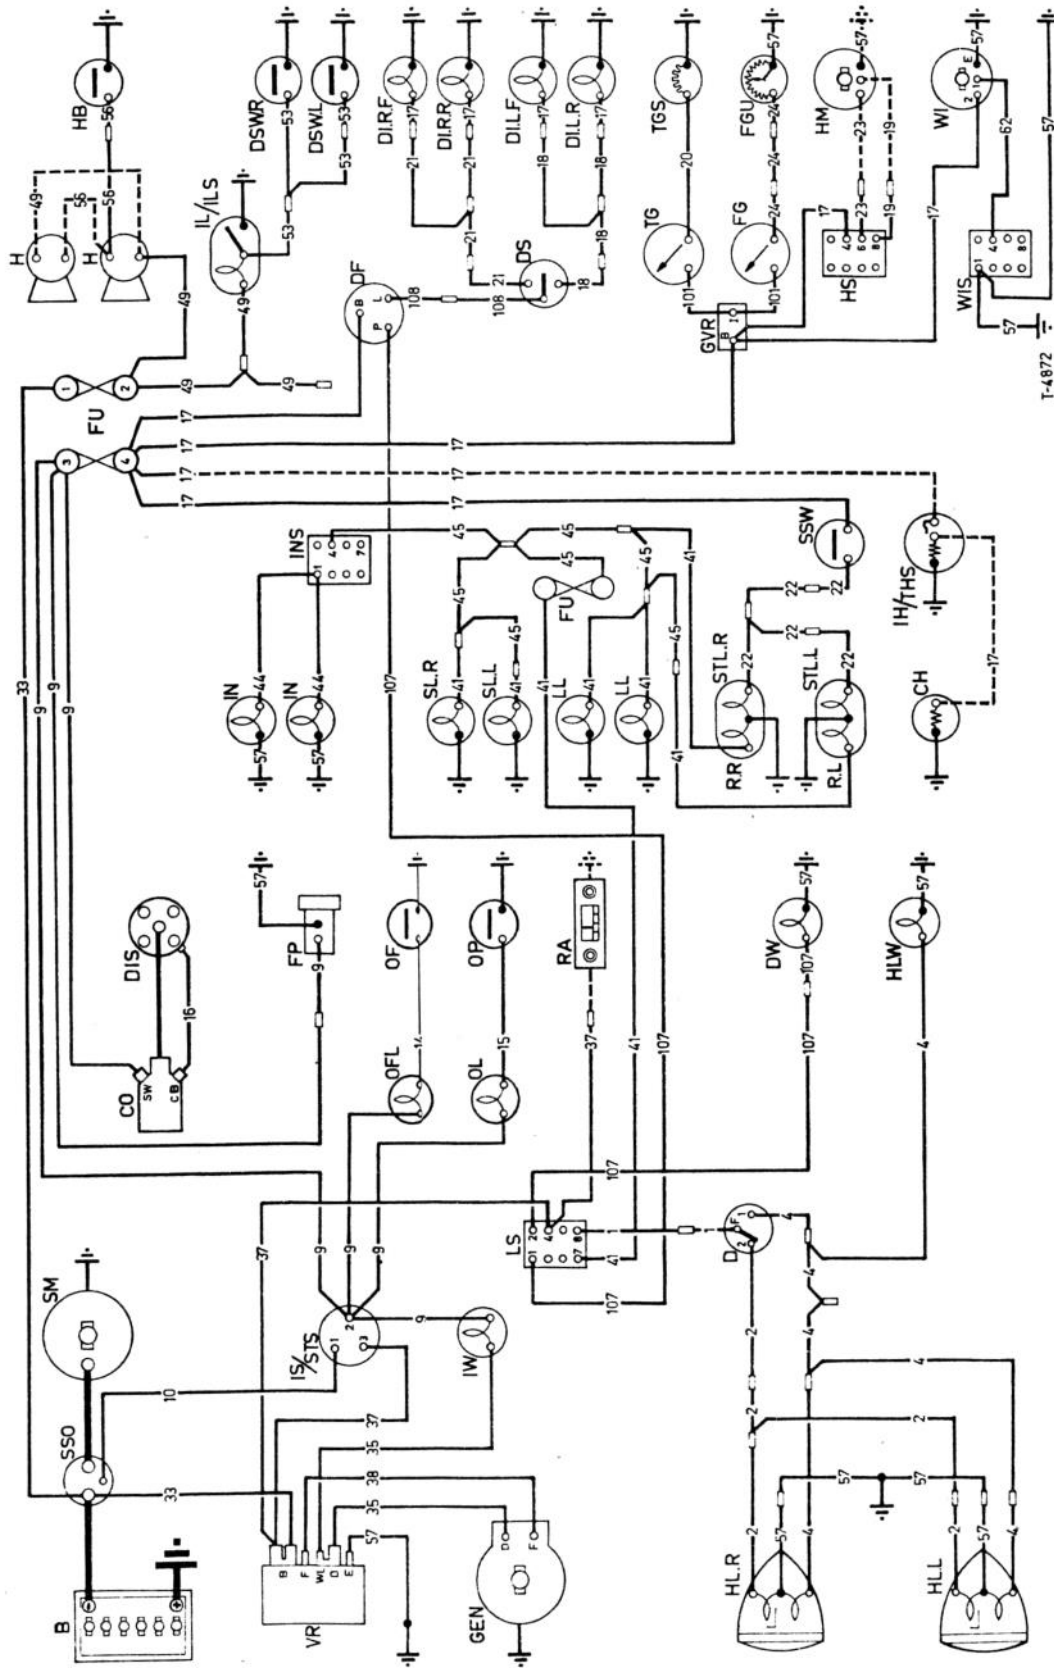

Fig. 49. Wiring diagram, Austin 1100
*Key to wiring diagrams (Fig. 49 to 56)*
*Colour key to wiring diagrams (Figs. 49 to 56):*